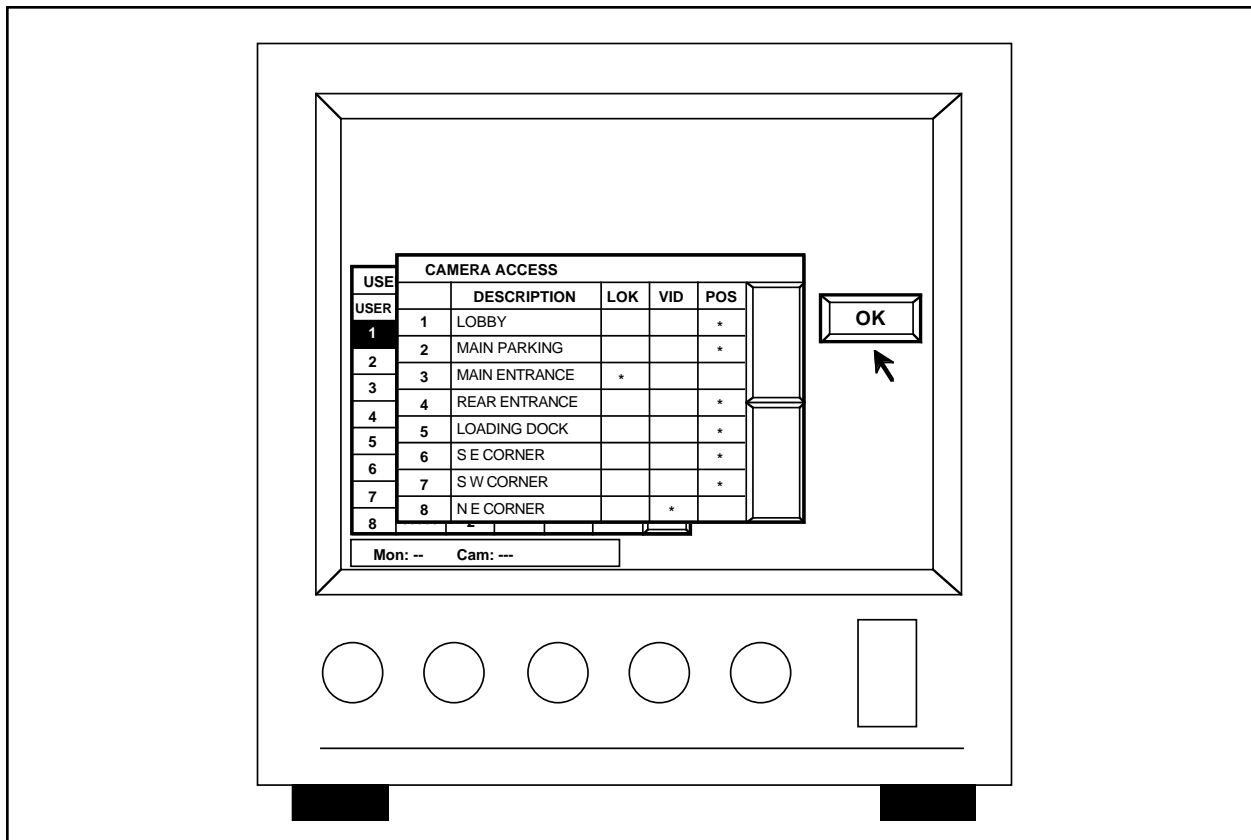

Figure 31. Camera Access Programming Screen
2. To program the camera access information for a specific user, move the cursor to the desired user number and press the [**point**] button. The camera access table should now appear on top of the User Profile Table and the selected user should be highlighted. Refer to Figure 31.